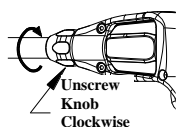
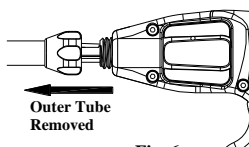

Fig. 5
Fig. 6
2. Remove the outer tube (Fig. 6) by fully squeezing the trigger and unscrewing the knob clockwise (Fig. 5).